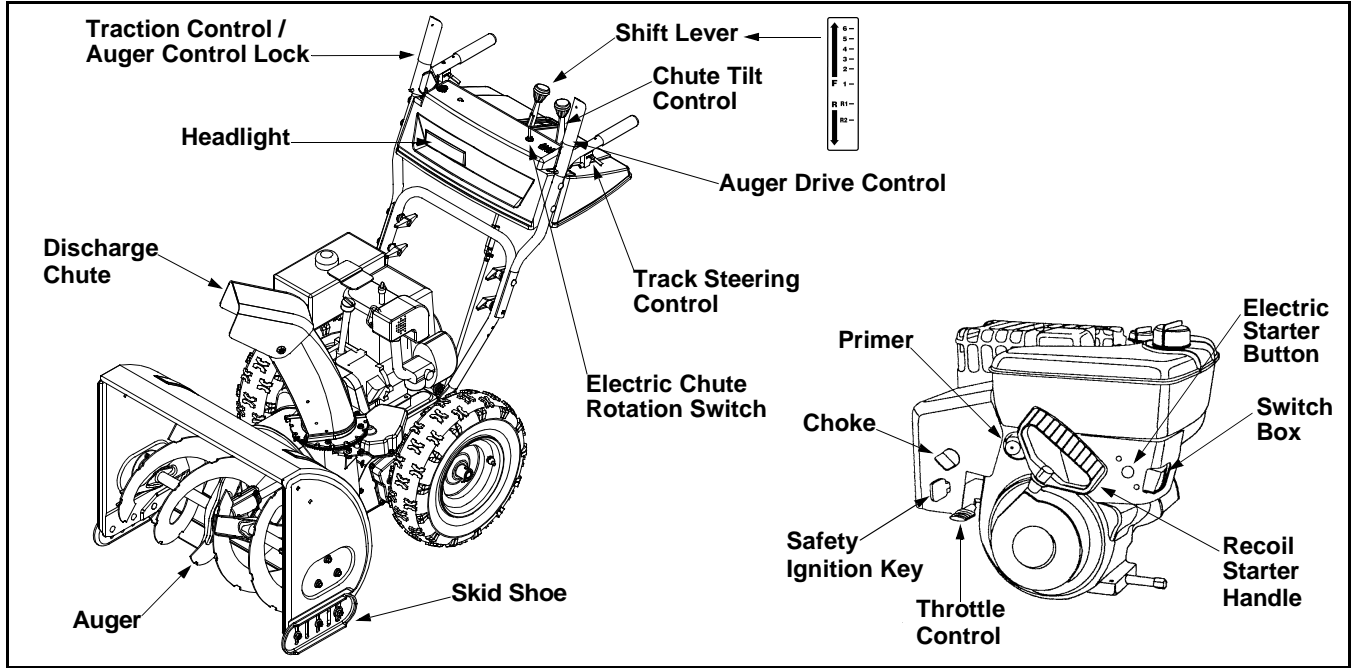

Figure 7
- Move the shift lever into sixth (6) position.
- a. With the traction control (refer to Figure 7) released, squeeze in triggers and gently push the snow thrower forward, then pull it back. Disregarding the overall weight of the snow thrower, the machine should otherwise move freely.
The traction control is located on the right handle. Squeeze the traction control to engage the wheel drive. Release to stop. See Figure 7.
The auger drive control is located on the left handle. Squeeze the control grip to engage the augers. Release to stop the snow throwing action. (Traction control must also be released.) See Figure 7.
The distance snow is thrown can be changed by adjusting the angle of the chute assembly. Move the chute tilt control forward to decrease the distance, toward the rear to increase. See Figure 7.
The position of the skid shoe is determined by the condition of the ground from where snow has to be removed. See Figure 7.
The shift lever is located in the center of the handle panel and is used to determine both ground speed and direction of travel. It can be moved into any of eight positions. See Figure 7.
The electric chute-rotation switch is located on the left side of the snow thrower dash panel. See Figure 7. To change the direction in which discharged snow is thrown, proceed as follows:
open areas until you become familiar with these controls. See Figure 7.
The throttle control is located on the engine. It regulates the speed of the engine and will shut off the engine when pushed down completely. See Figure 7.
The safety ignition key must be fully inserted in the switch before the unit will start. Remove the ignition key when the snow thrower is not in use. See Figure 7.
- Move throttle control up to FAST position. Insert ignition key into slot. See Figure 7. Be certain it snaps into place. **Do not turn key.**